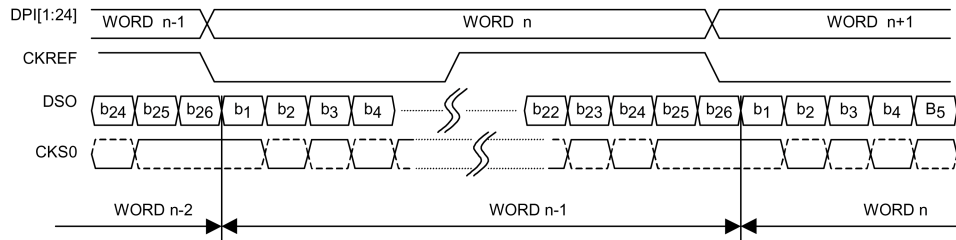

FIGURE 1. Serializer Timing Diagram (CKREF equals STROBE)
**Serializer Operation: (Figure 1)